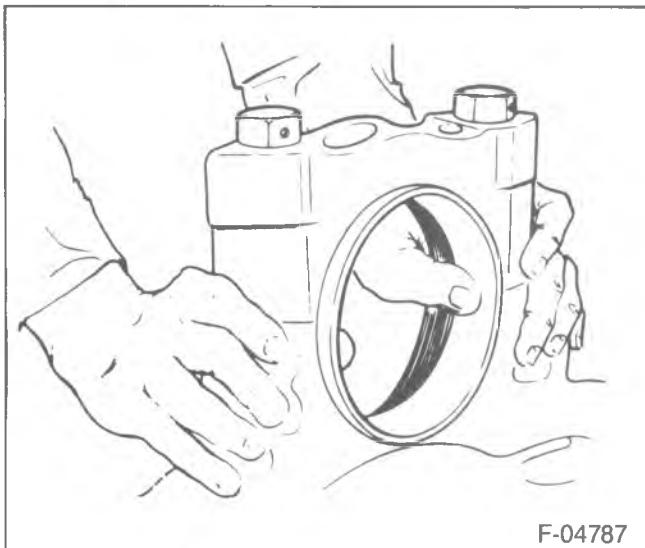

Figure 186—Checking the Bearing Cup Fit
1. Bearing cups (33) to the carrier (36).
2. Adjusting nuts (32).
3. Bearing caps (25).
4. Cap bolts (23).
- The bearing cups must have a hand fit in the bearing bores: If the fit is too tight, rework the bore with emery cloth, until a hand fit is obtained (figure 186).
1. Cap bolts (23).
2. Bearing caps (25).
3. Adjusting nuts (32).
4. Bearing cups (33).